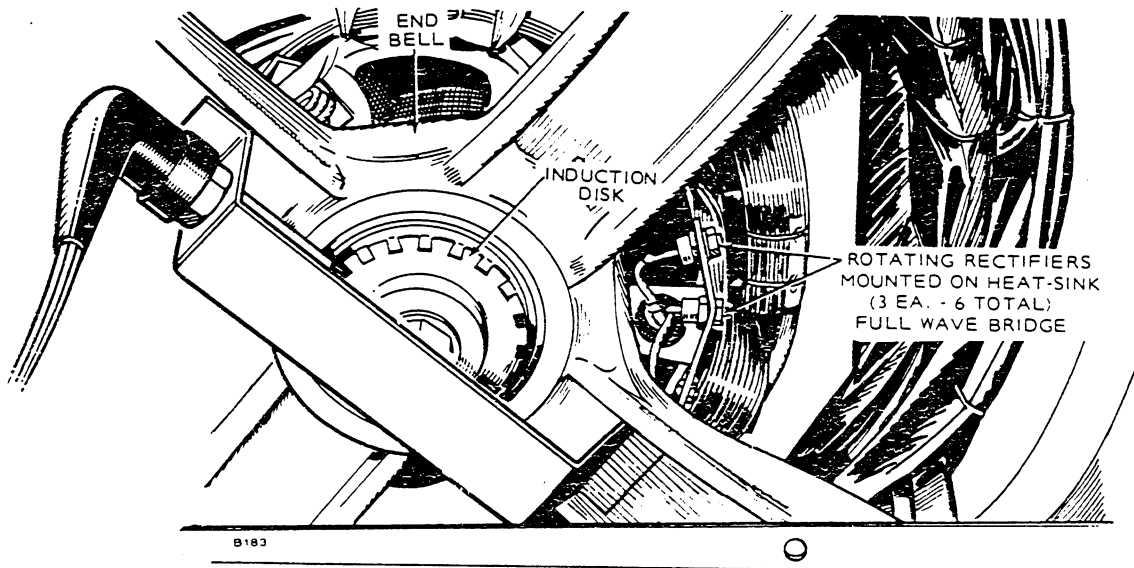

FIGURE 2. OVERSPEED SWITCH
- b. Overspeed (engine speed reaches 2100 rpm). See Figure 2.